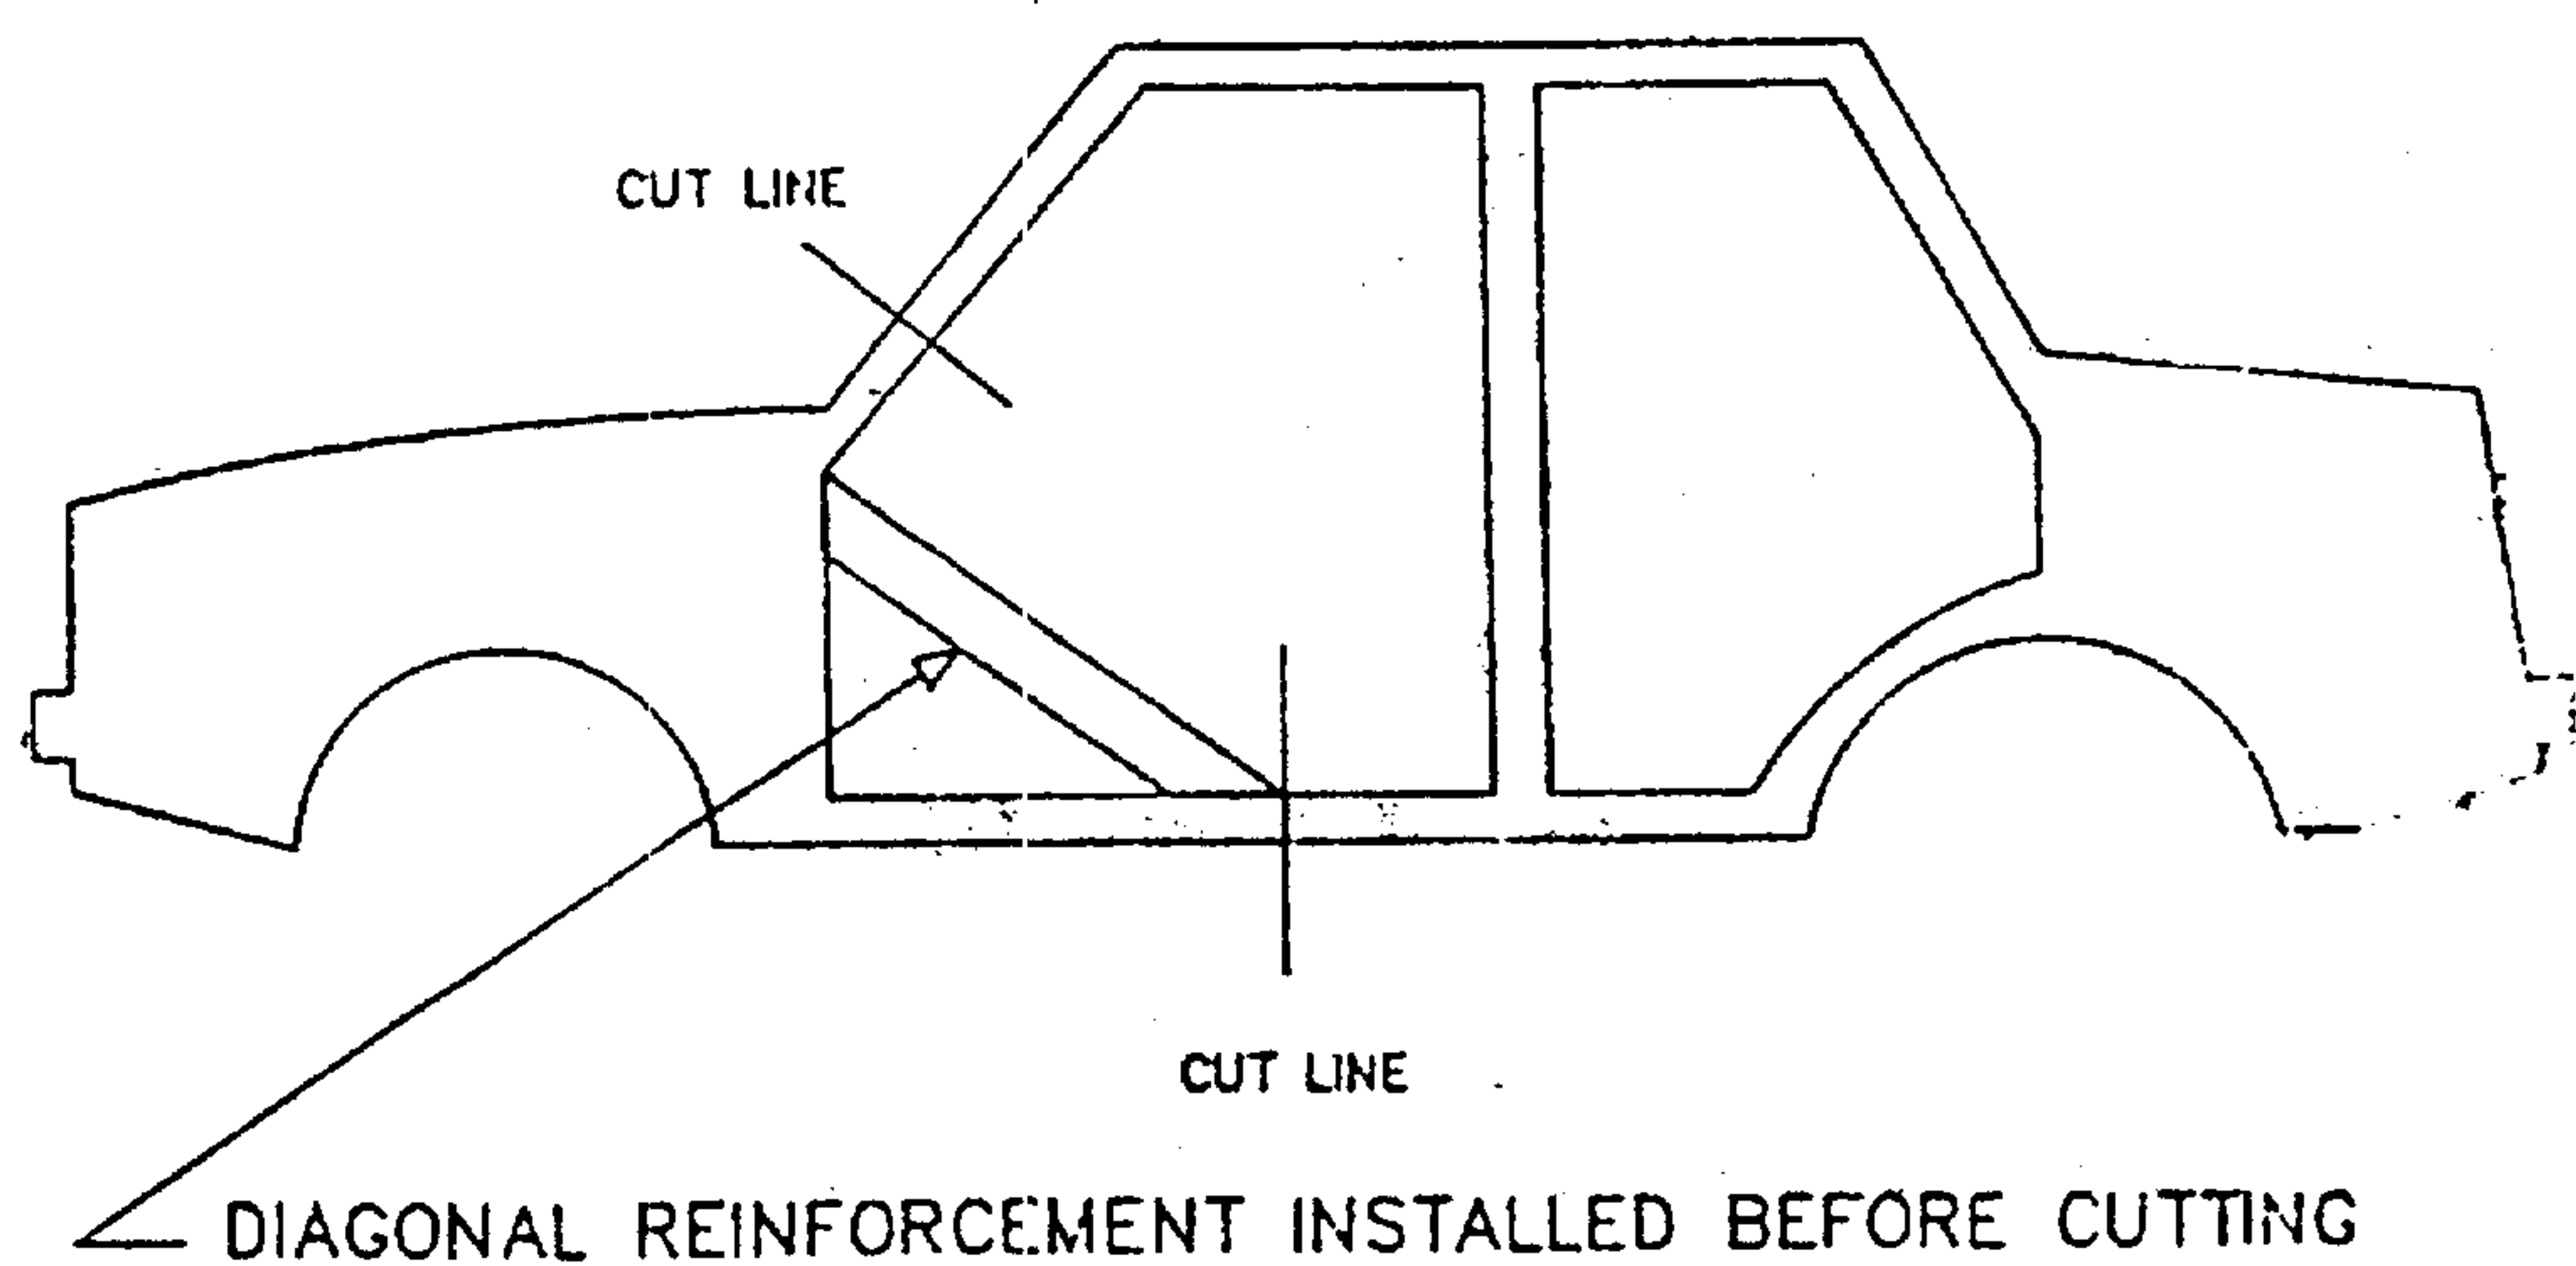

Figure 1. Diagonal reinforcement installed before cutting
- (j) Check the floor panel and underside in order to decide a part to be cut as figure 1 shows a typical example.
- (l) If the cut line that crosses floor panel is in the back of the front seat anchor, reinforcement shall be set on both sides between the "A" pillar and door sill as shown on figure 1. This is to maintain the original condition of steering control system after the vehicle is cut in half.